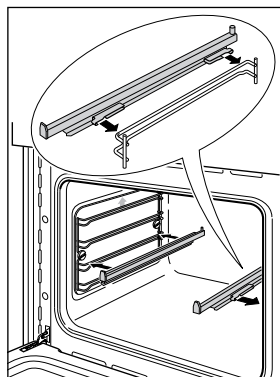

Fig.34 Refitting the sliding shelf supports
- 2 Fit the sliding shelf support onto the top wire of a rack and press (Fig. 34). You will hear a click as the safety locks clip over the wire.
- *the slides so that they run out towards the oven door, as shown in Fig. 34).*